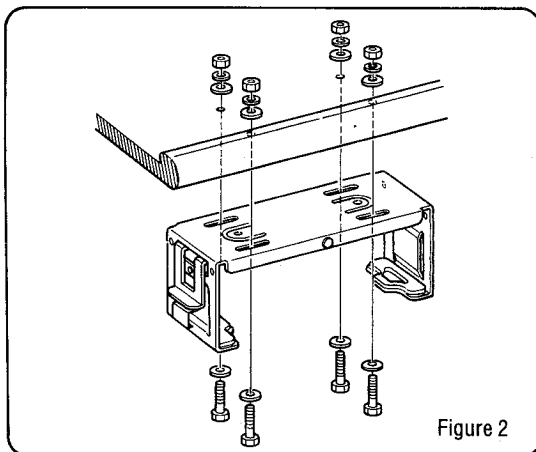

Figure 2
- ① When you use hexagon bolt of M5mm, make a hole with diameter of 5.2 to 5.5 mm. Make a hole with diameter of 4.0 to 4.3 mm for tapping screw of M5mm.
- ② Install the set fix bracket in a car as shown in Figure 2.